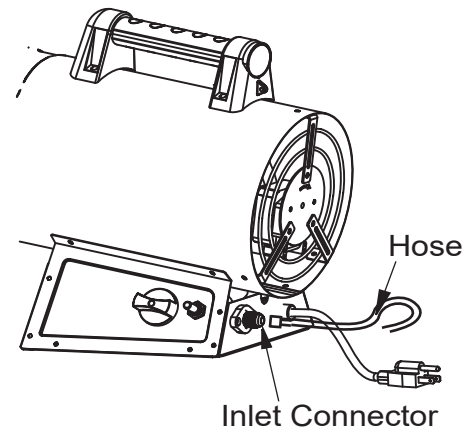

Figure 4 - Hose and Inlet Connector (heater may vary from illustration)
3. Connect the hose to inlet connector (see Figure 4). Tighten firmly using a wrench. **IMPORTANT:** Use extra hose or piping if needed. Install extra hose or piping between hose/regulator assembly and propane tank. The regulator supplied with heater must be used.